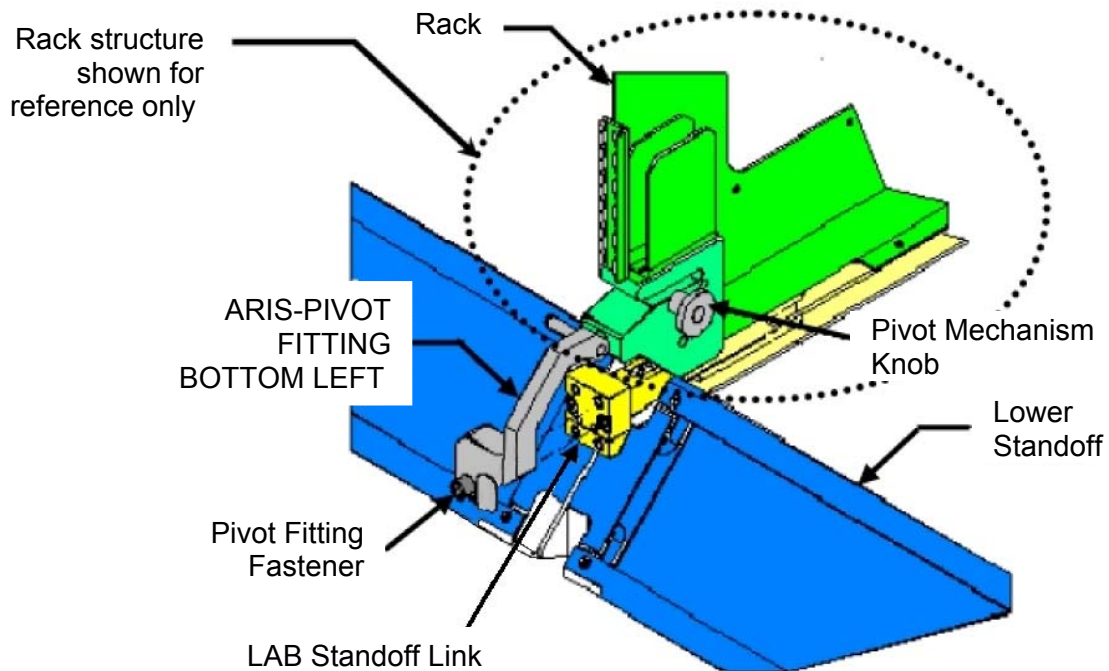

Figure 1.- ARIS - Pivot Fitting Installation Location.
2. Rack structure shown in Figure 1 is for reference only and is not currently installed at JPM1A1.